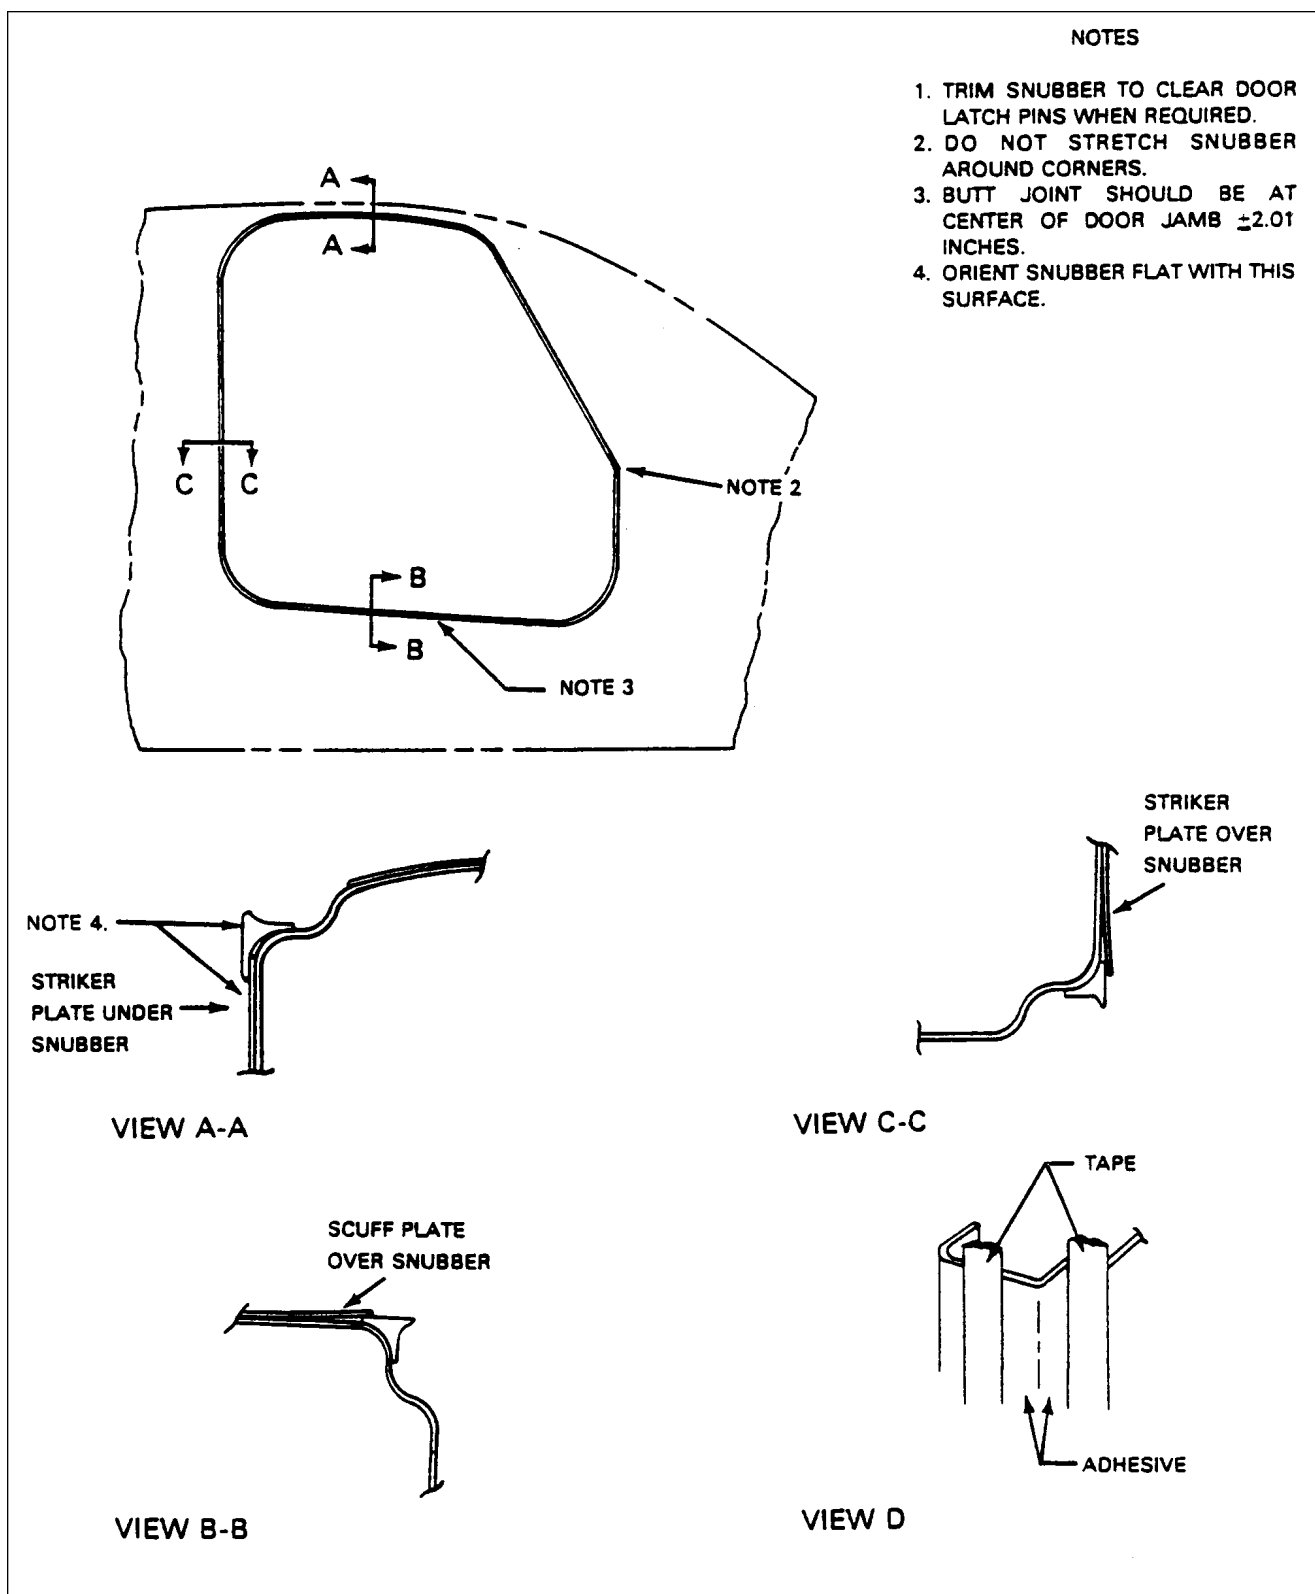

Figure 4-8. Door Seal Snubber Installation
4-47a REMOVAL AND INSTALLATION OF DOOR SEAL SNUBBERS. (Refer to Figure 4-8.)
- d. Remove the striker plate. (Refer to Figure 4-8.)
2. To effect a clean installation it is recommended that the door jamb is masked off with tape as shown in Figure 4-8, View D.
3. Apply adhesive to the door jamb with a small brush on the area indicated in Figure 4-8, View D.